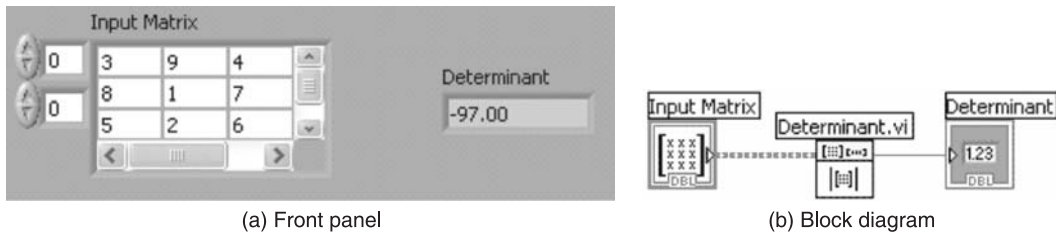

Figure P5.12
**Solution** Create the front panel and the block diagram to find the determinant of a matrix as shown in Figures P5.12(a) and P5.12(b).